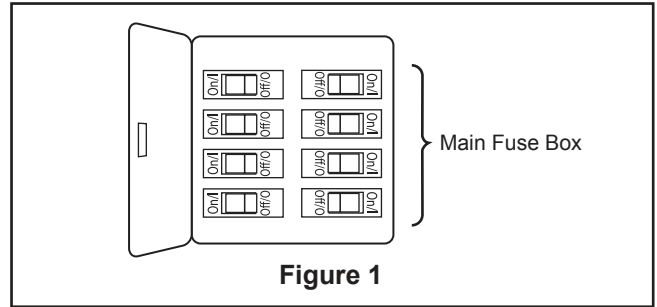

Figure 1
1. Restore electrical power to the outlet box by turning the electricity on at the main fuse box. (Figure 1)